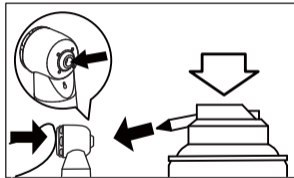

Fig. 11
- 2) Lubricate the chuck directly through the bur insertion hole. (Fig.11)